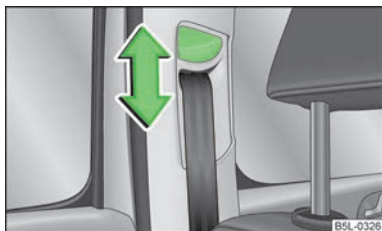

Fig. 121
- Press the height adjuster and move up or down in the desired direction » Fig. 121.